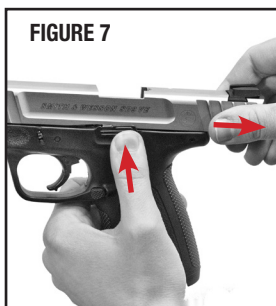

FIGURE 7
- Lock the slide in the open position by allowing the slide to move slightly forward from the rearmost position while pressing upward on the slide stop (FIGURE 7).